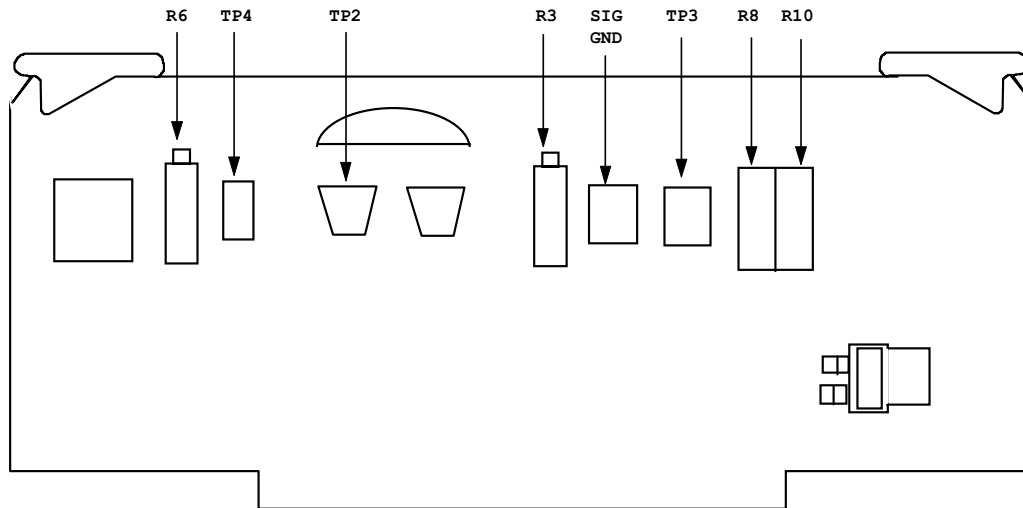

Figure 4. Calibrator circuit board test and adjustment points.
- (2) Remove jumper from test point TP2 (fig. 4) on calibrator circuit board.
- (3) Disconnect J14 from P14 (located on left side of circuit board cage).
- (4) Connect calibrator **OUTPUT** positive to the negative connectors of J14 and **OUTPUT** negative to the positive connectors of J14. Connect multimeter to TP2 (+) and TP4 on calibrator circuit board (fig. 4).
- (5) Refer to table 3 and adjust calibrator to millivolt value corresponding to ambient temperature recorded in (1) above.
- (6) Multimeter will indicate between 7.255 and 7.295 mV dc; if not, perform **b** (1) below.
- (7) Replace jumper at TP2 (fig. 4) and reconnect J14 to P14.
- (8) Set **TEMPERATURE** switch to **CAL 600 °C**. If **TEMP °C** indicator does not display **600** perform **b** (2) below.
- (1) Adjust R6 (fig. 4) for 7.275 mV dc indication on multimeter (R).
- (2) Adjust R3 (fig. 4) for **TEMP °C** indicator display of **600** (R).